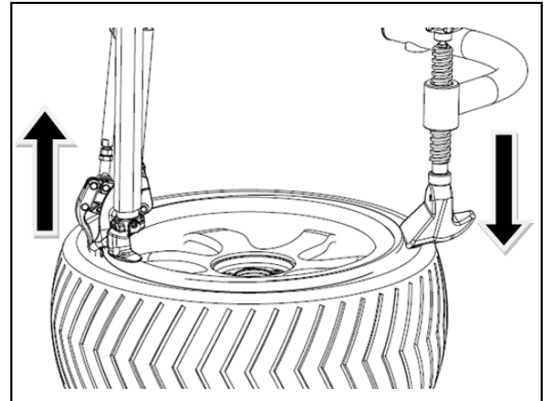

FIG16
- If the demounting hook cannot lift the tire lip because of the harder RSC tire during lifting the tire lip, can press the tire using assist arm. The pressing block can press down 40-80cm on the opposite side of the demounting head, which helps the demounting hook to lift the tire lip smoothly like FIG16.